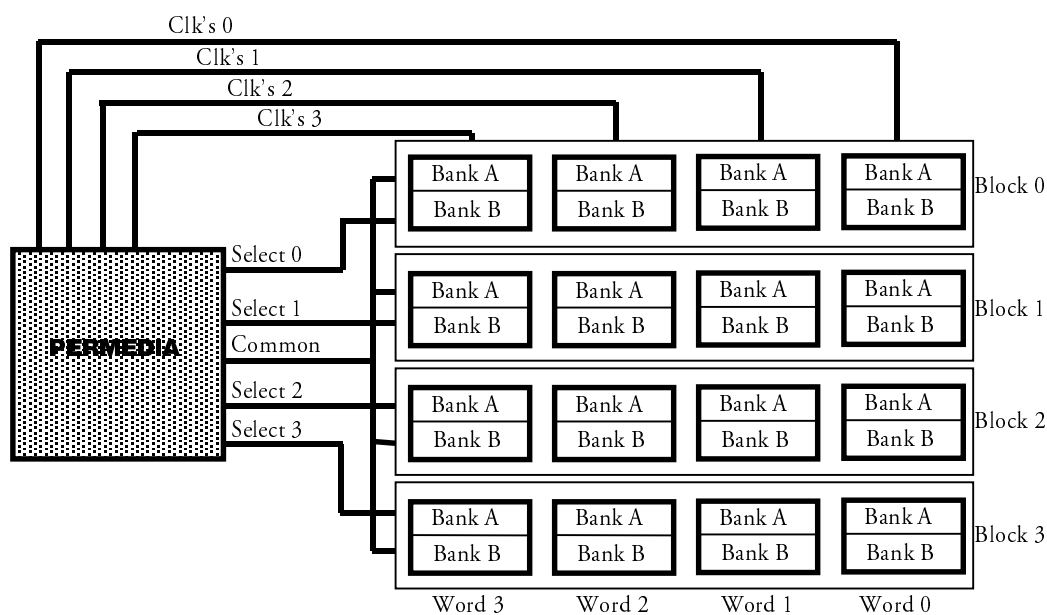

Figure 9.1 Organization of memory devices
The PERMEDIA memory system is intended for use with Synchronous Dynamic Memories. The memories can be SGRAM or SDRAM devices. The width of the memory interface is 128 bits, but can be configured to 64 bits. Control lines are provided for 4 blocks of memories, these are Select (3 – 0). Four ClockOut and ClockReturn signals are also provided, these are to assist in de-skewing the return data and reducing the load on each clock line. The Clock lines should be wired as illustrated in Figure 9.1. The memory system has one set of primary control signals which are common to all blocks, these are Data, Address, RAS, CAS, WriteEnable (WE), DSF, ClkEnable and Byte enables (DQM). A typical organization is shown below.
As an example the memory configuration in Figure 9-1 is constructed from sixteen 8-megabit devices each with two internal banks
This flag should be set, when the total number of banks fitted is greater than 4. The total number of banks can be determined by multiplying the number of internal banks of the device by the number of device blocks fitted. In the example shown in Figure 9-1, there are 4 device blocks fitted (Blocks 0 to 3), each device has 2 internal banks (Banks A and B), so the total number of banks is 8, therefore CombineBanks should be set.
This flag when set doubles the page size of the memory array. This is accomplished by combining two blocks of memory and operating them as one. Both blocks are PRECHARGED and ACTIVATED together, and any command sequences issued that cross from one block to the other, do so without incurring a page brake. From the example configuration detailed in Figure 9-1, Block 1 would interleave with Block 0, and Block 3 with Block 2. When this flag is set the value loaded into the PageSize parameter (9.1.1.5) should be increased by one. As the Blocks are now operating in pairs the total number of banks fitted is halved. This may have a bearing on the CombineBanks flag (9.1.1.7).